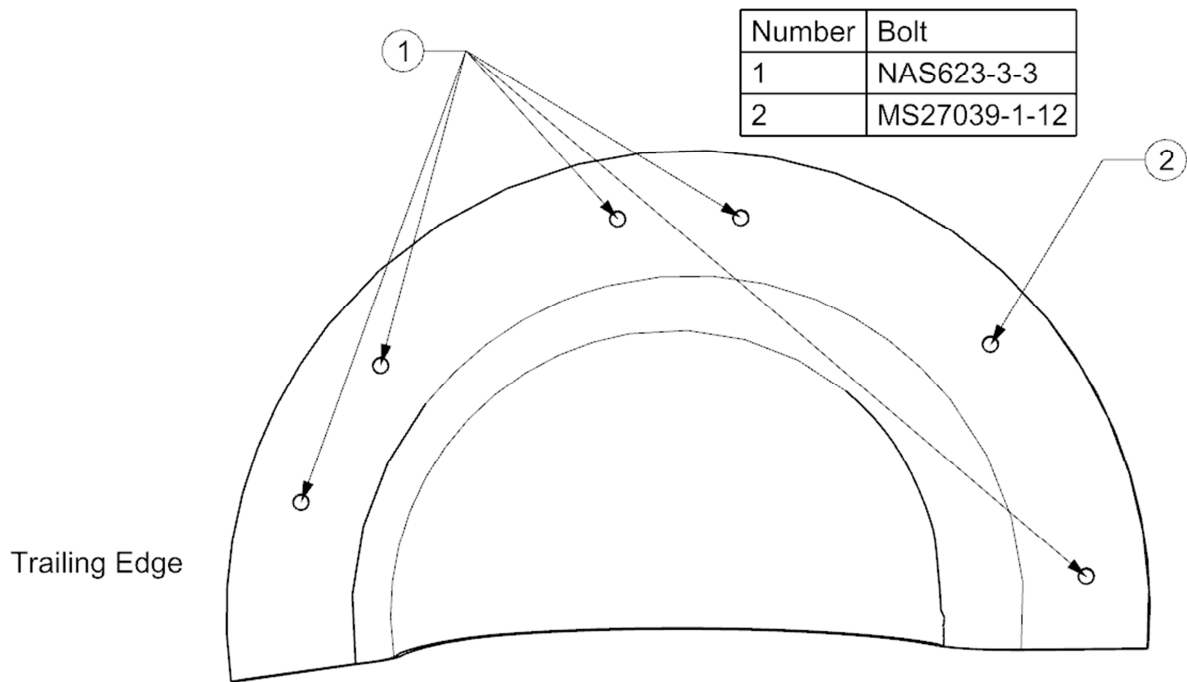
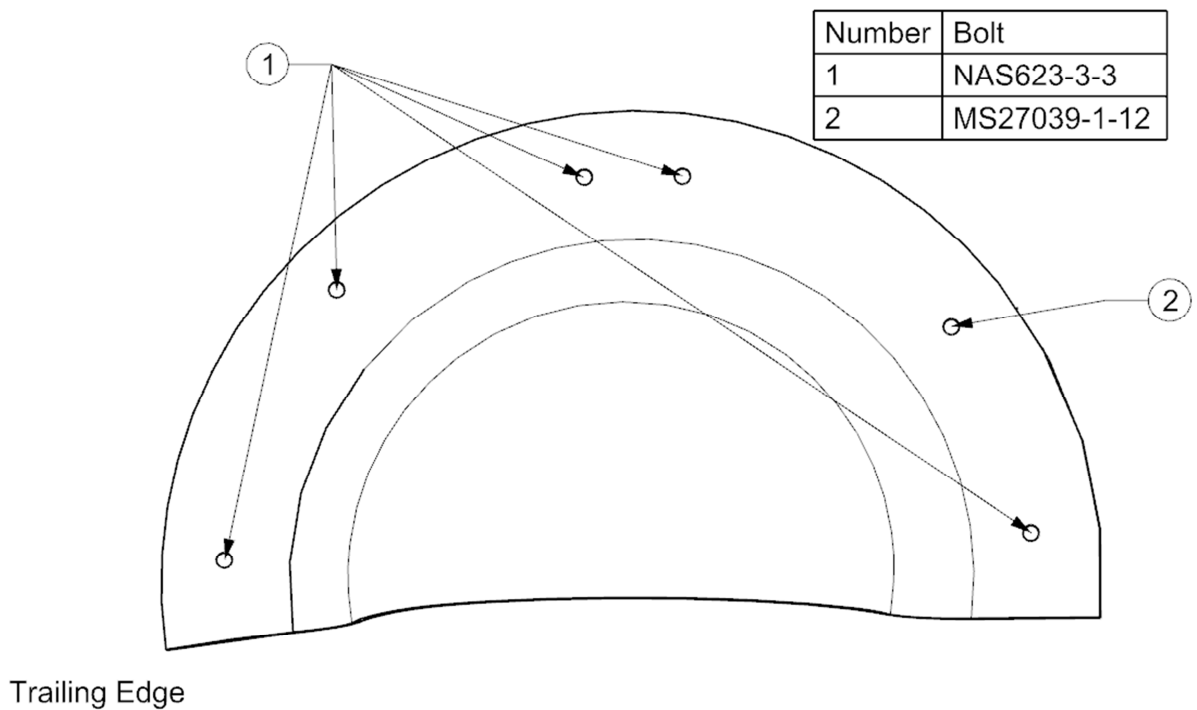
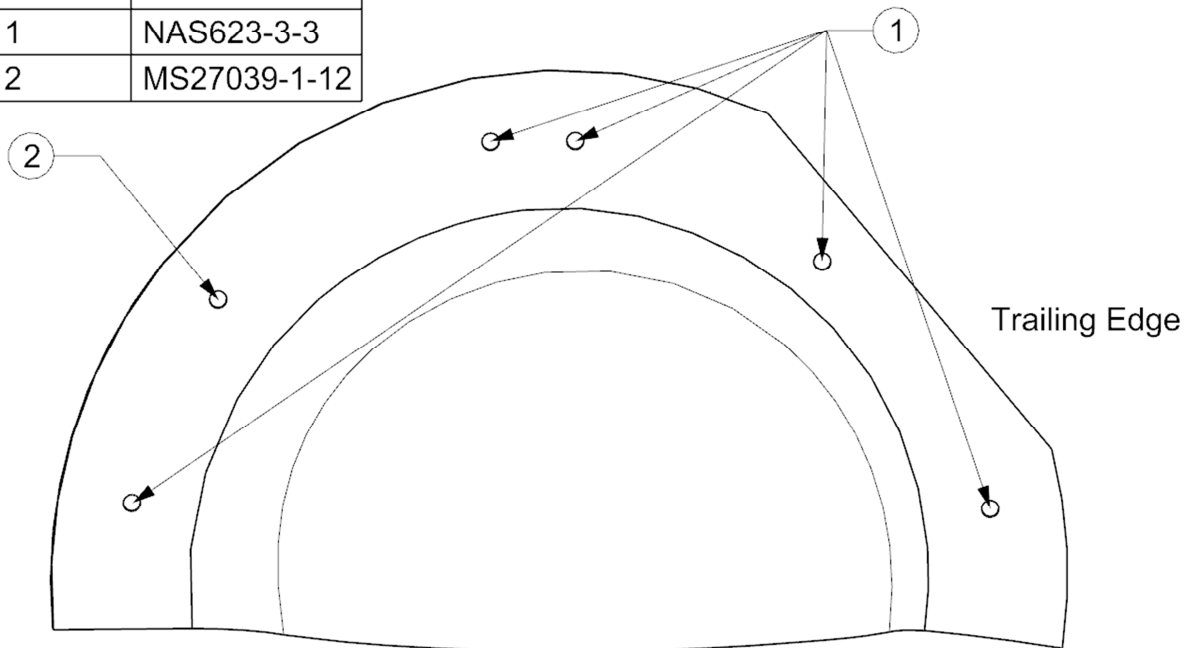

Figure 3-8: Outboard Wing Pylon Aft Lug Cover Fastener Placement
Figure 3-9: Center Wing Pylon Aft Lug Cover Fastener Placement
Figure 3-10: Inboard Wing Pylon Aft Lug Cover Fastener Placement
4. Attach the aft wing pylon lug covers (UWB-ICE-06-104, UWB-ICE-07-104, UWB-ICE-08-104, UWB-ICE-06-105, UWB-ICE-07-105, and UWB-ICE-08-105) to the wing array pylons using MS27039-1-12 and NAS623-3-3 fasteners as per Figure 3-8, Figure 3-9, and Figure 3-10.